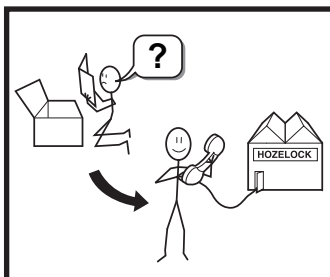

Fig. 1
2. Remove the Wildlife Protection system (Fig1 - a).
3. Remove & unpack the ball joint, hosedetails & outlet adaptor (Fig 1 - b, c & d).
Note:1000 model: The pump locates into a cradle that is fixed to the lower cage (Fig 1 - g).